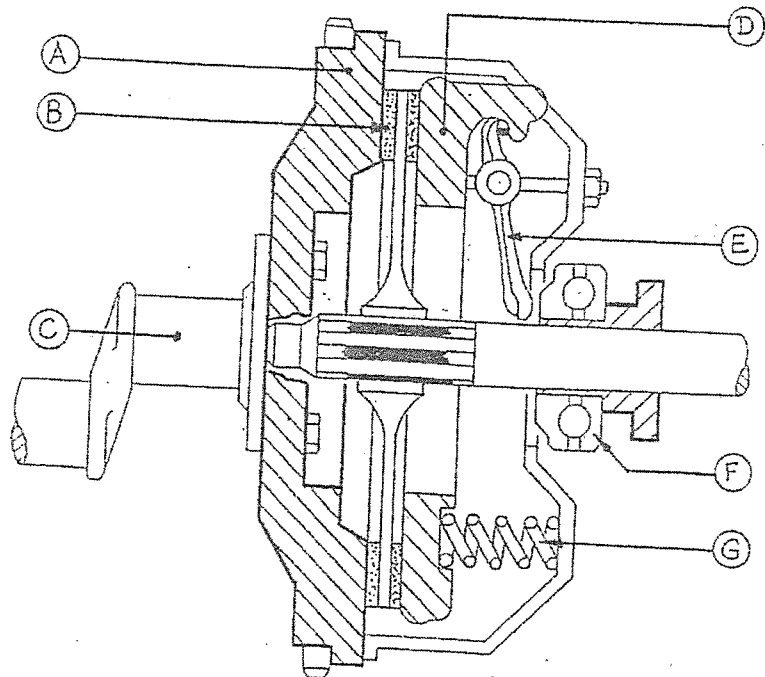

FIGURE 4
- 3.2 FIGURE 4 Diagram SHEET 2 (attached) shows a sketch of a single-plate clutch assembly.